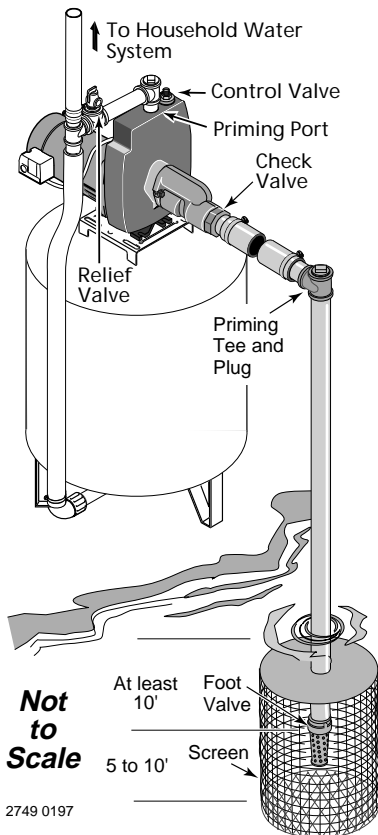
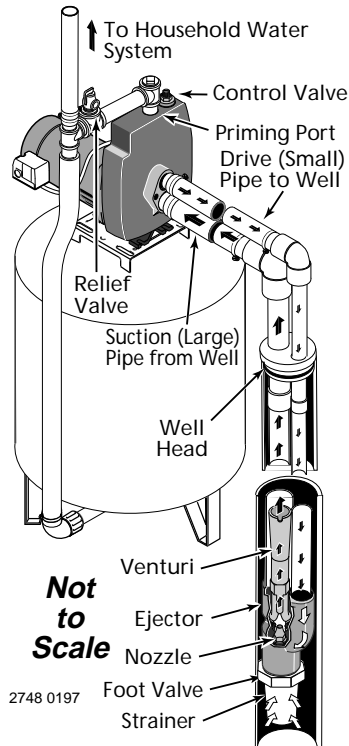

Figure 7: Surface Water Installation
Figure 8: 4" and Larger Deep Well
INSTALLATION FOR SURFACE WATER (Figure 7)
Step 3. Assemble a foot valve and suction pipe (see Figure 8). Make sure that the foot valve works freely. Use teflon tape or a teflon-based pipe joint compound on threaded pipe joints. Protect the foot valve assembly from fish, trash, etc. by installing a screen around it (see Figure 7).
Step 5. Install a priming tee, priming plug, and suction pipe to the pump (see Figure 7). Support the pipe so that there are no dips or sags in the pipe, so it doesn't strain the pump body, and so that it slopes slightly upward from the well to the pump (high spots can cause air pockets which can air lock the pump). Seal the suction pipe joints with teflon tape or a teflon based pipe joint compound. Joints must be air- and water-tight. If the suction pipe can suck air, the pump cannot pull water from the well.
4" OR LARGER WELL (Figure 8)
- Step 1. Assemble ejector kit (models with "J" suffix include complete ejector assembly; for other models, purchase ejector kit FP4855, sold separately). See Figure 8. Follow the instructions included with the kit in order to match the nozzle and venturi to your well conditions.